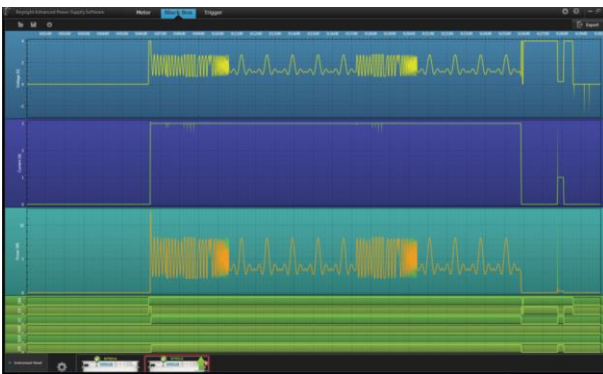

Figure 8. Black box recorder data displayed within the N7906A Power Assistant software
Much like a flight data recorder, the N7908A black box recorder (BBR) runs continually in the background, independent of what the power supply is doing. When the power supply is on, the BBR is recording power events and storing measurements in non-volatile memory. The BBR can be set for either a 24-hour record or a 10-day record period. In the 24-hour mode, measurements are made at a rate of 100 per second, and in the 10-day mode they are made at a rate of 10 per second. The BBR data can be accessed via the free APS power assistant software (see Figure 8 on page 13). The BBR option works on all APS N6900 and N7900 power supplies. It is a factory installed option available only at the time of purchase.
- Retrieve and view data from the optional APS power supply black box recorder (see Figure 8)